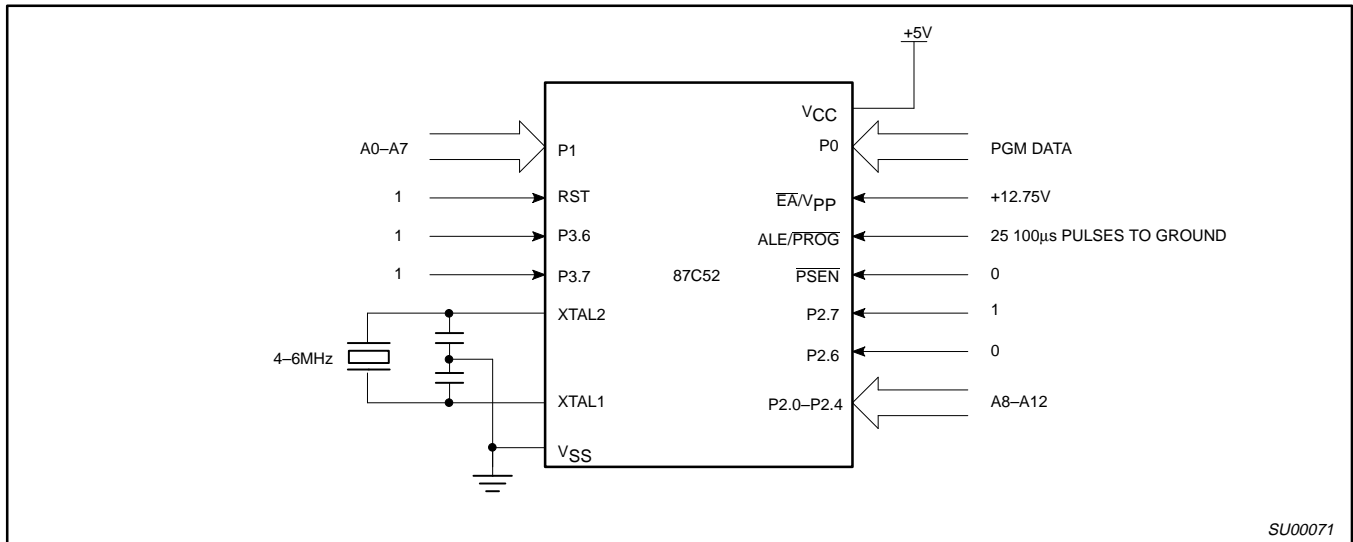
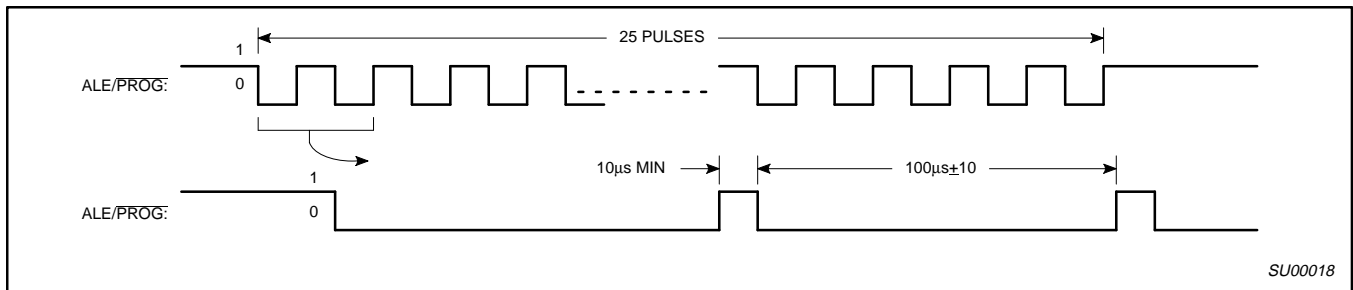
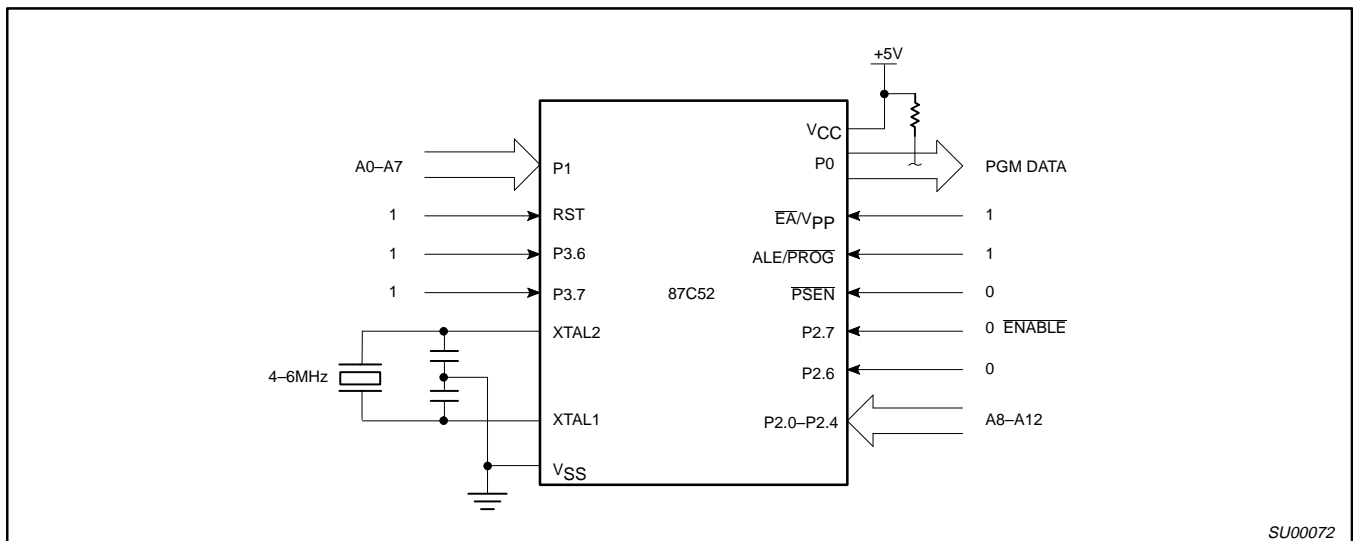

Figure 17. Programming Configuration
Figure 18. PROG Waveform
Figure 19. Program Verification
Table 6 shows the logic levels for reading the signature byte, and for programming the program memory, the encryption table, and the security bits. The circuit configuration and waveforms for quick-pulse programming are shown in Figures 17 and 18. Figure 19 shows the circuit configuration for normal program memory verification.
The setup for microcontroller quick-pulse programming is shown in Figure 17. Note that the 87C52 is running with a 4 to 6MHz oscillator. The reason the oscillator needs to be running is that the device is executing internal address and program data transfers.
The address of the EPROM location to be programmed is applied to ports 1 and 2, as shown in Figure 17. The code byte to be programmed into that location is applied to port 0. RST, PSEN and pins of ports 2 and 3 specified in Table 6 are held at the 'Program Code Data' levels indicated in Table 6. The ALE/PROG is pulsed low 25 times as shown in Figure 18.
If security bit 2 has not been programmed, the on-chip program memory can be read out for program verification. The address of the program memory locations to be read is applied to ports 1 and 2 as shown in Figure 19. The other pins are held at the 'Verify Code Data' levels indicated in Table 6. The contents of the address location will be emitted on port 0. External pull-ups are required on port 0 for this operation.
* FOR PROGRAMMING VERIFICATION SEE FIGURE 17.
FOR VERIFICATION CONDITIONS SEE FIGURE 19.